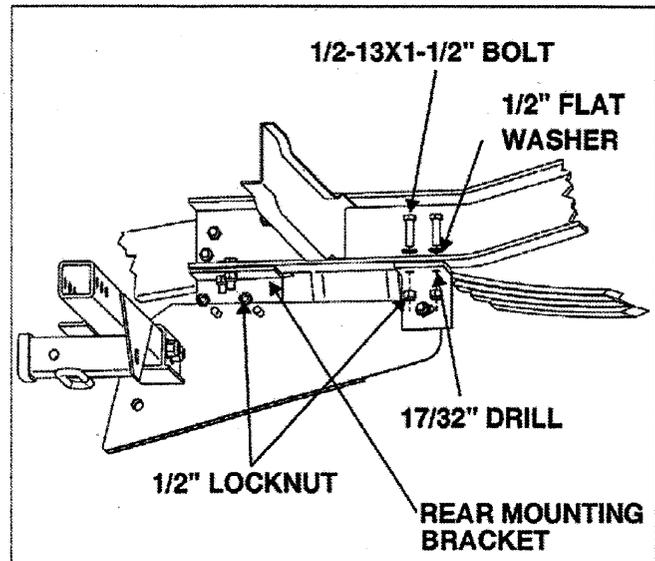

Figure 6
2. Install two 1/2" x 1-1/2" grade 5 bolts, and 1/2" locknuts (per side) to hold subframe to rear brackets. See Figure 6.
4. Using bracket as a template, center punch and drill two 17/32" holes in bottom flange of frame (2 per side). See Figure 6.